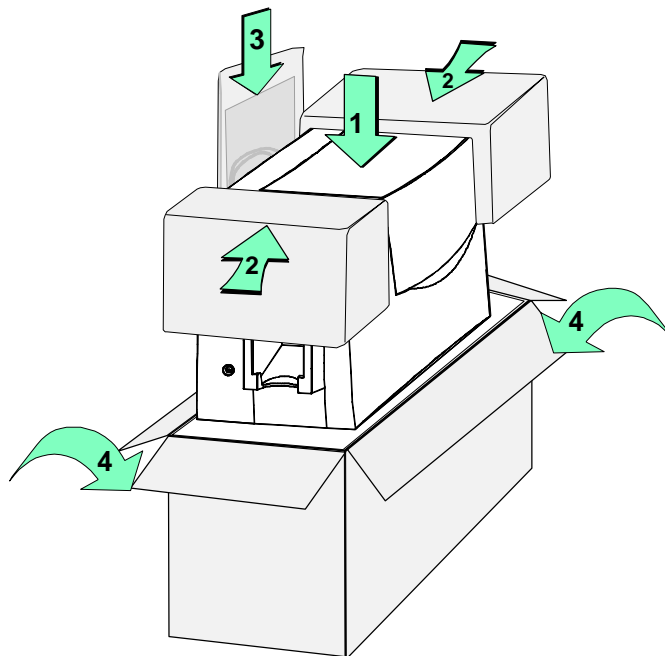

Figure 5-5: Pack a Select printer for shipping
- 11 Place the printer in the shipping carton, resting in the shipping supports (step 1 in Figure 5-5).
- 12 Place the “Top Front” and “Top Rear” shipping supports in place (step 2 in Figure 5-5).
- 13 Place the accessories bag in the shipping carton next to the printer (step 3 in Figure 5-5).
- 14 Close the shipping carton (step 4 in Figure 5-5).